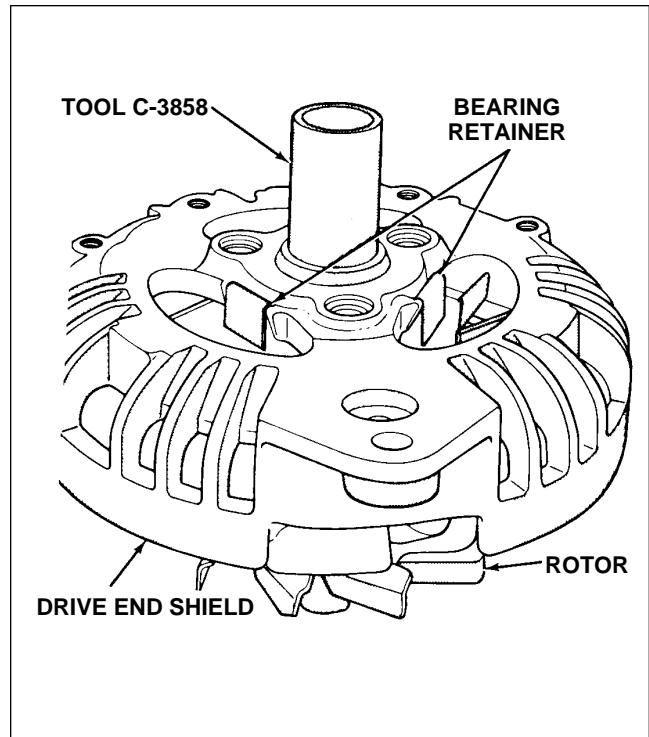

Figure 24-35. Installation of Chrysler Alternator Pulley
- e. Install pulley on rotor shaft. Rotor shaft must be supported so all pressing force is on pulley hub and rotor shaft. (Refer to Figure 24-35.)